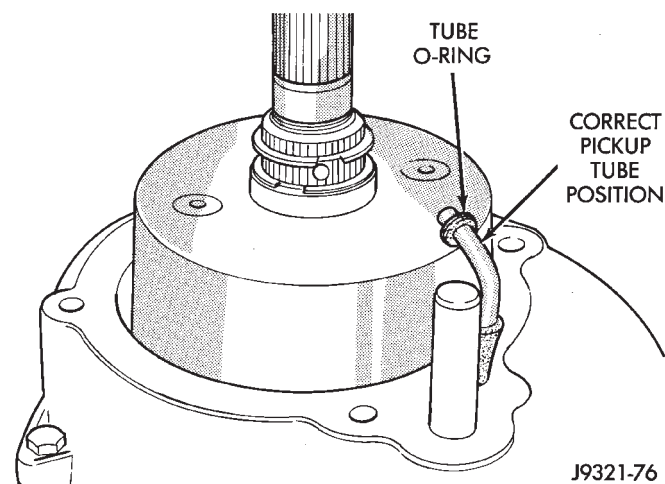

Fig. 58 Checking Position Of Oil Pickup Tube
(34) Verify that oil pickup tube is still seated in case notch and tube end is pointed toward mainshaft (Fig. 58).